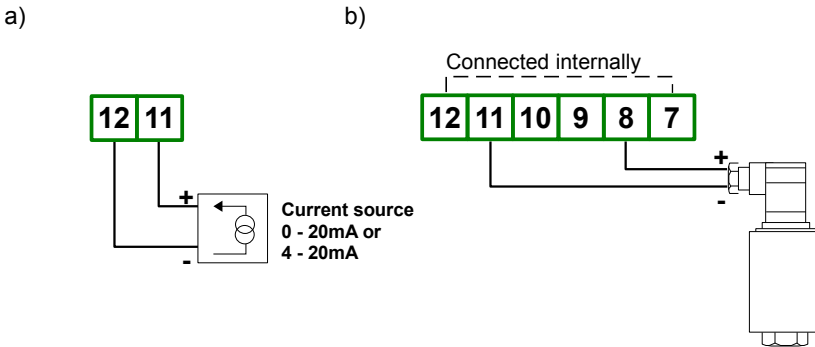

Figure 4.16. Connections of 2-wire sensor:
**PDU-4x0-W** meter has no galvanic separation between measurement input and RS-485 interface. If serial connection of multiple units is made or serial connection with other device, without galvanic separation of RS-485 interface, is made then RS-485 interface separators must to be used certainly (**Figure 4.16, 4.18**). If RS-485 interfaces are isolated or not used then the separators are not necessary.
If device **B** (Figure 4.16, 4.18) is equipped with galvanic separated input or if different potentials between **A** and **B** devices signal grounds are allowed (e.g. if RS-485 interface is separated or unused), current loop can be closed without separator **G**.